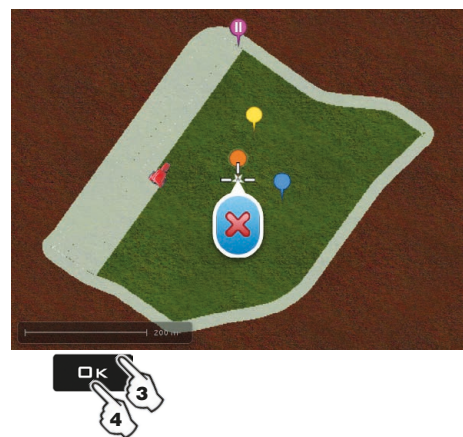

Fig. 356
- 3 Press **OK** twice to delete (Fig. 356) / **ESC** to cancel.